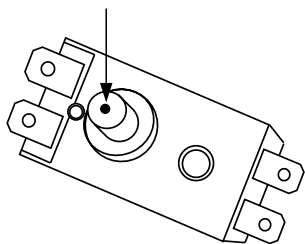

Fig. 9
6. Water can be drained through a composite relief valve (Fig. 9) (unscrew the composite relief valve drain knob screw and set the drain knob to the upper position, at that hot water tap must be open, and cold water supply valve must be closed).